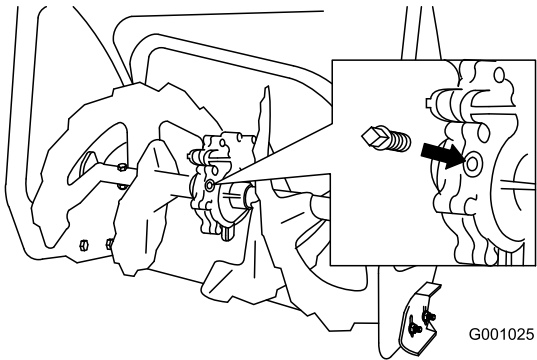

Figure 41
- 2. Clean the area around the pipe plug (Figure 41).